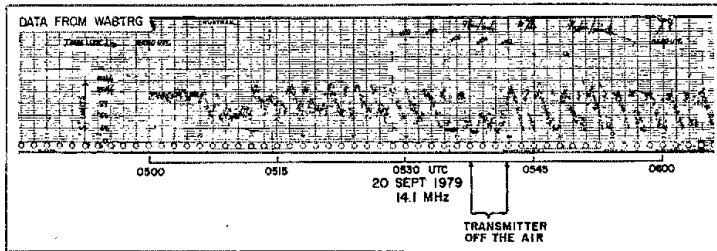

Fig. 3 — Chart recordings of signals from W6YX/KP4 on 14.1 MHz received by WA8TRG, Sugar Creek, Ohio.
14.1 MHz — We have already discussed the QRP aspects of propagation on 14.1 MHz. The power-stepped beacon, while very interesting for a QRP demonstration, did not provide the expected advantage to signal-strength reception, primarily because of the approximate 50% duty cycle of the transmissions. The loss of power from 0537:21 to 0541:51 also led to some confusion. A chart recording made by WA8TRG, Sugar Creek, Ohio (Fig. 3) is a good synopsis of reception on this band. Note that the different power levels, the off-the-air times and the interference levels can be seen clearly on